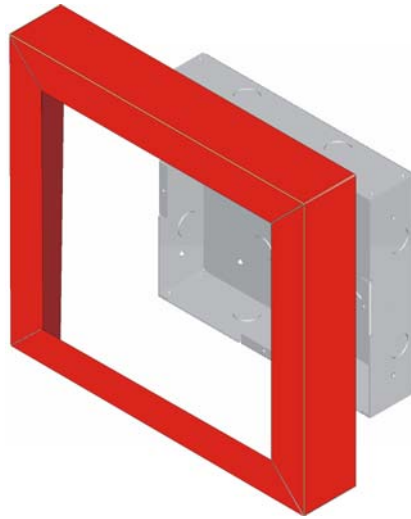

Figure 4-16 Installing Trim Ring
4. Place the trim ring over the back box as shown in Figure 4-16.